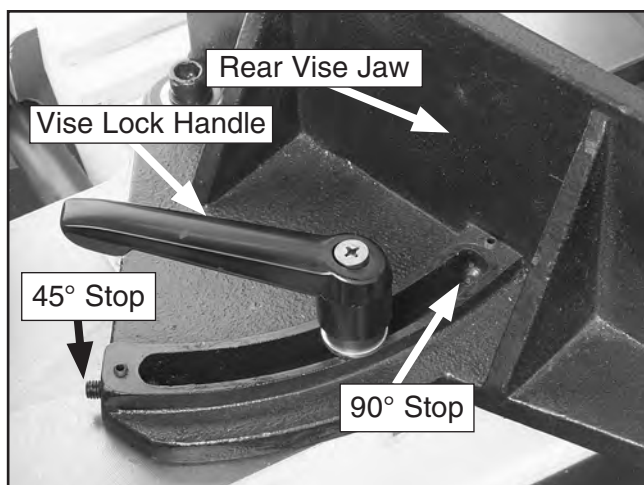

Figure 15. Positive stop adjustments.
2. If the angle is not 90°, loosen the vise lock handle then adjust the set screw as needed to set the positive stop to 90° (see **Figure 15**).